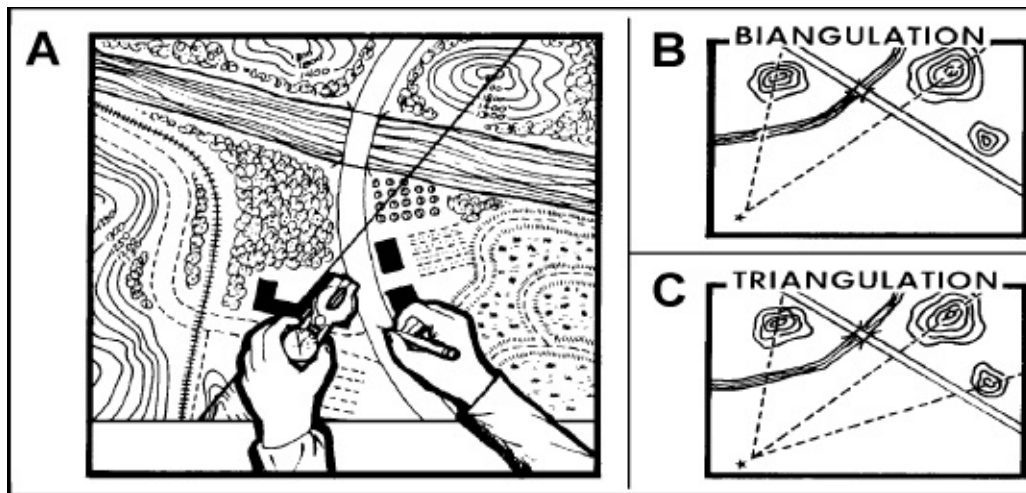

Figure 2-7. Triangulation
(2) Triangulation (resection) with a compass (**Figure 2-7**).